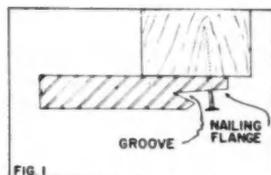

FIG 1
1. Nail through nailing range of first unit (Fig. 1).